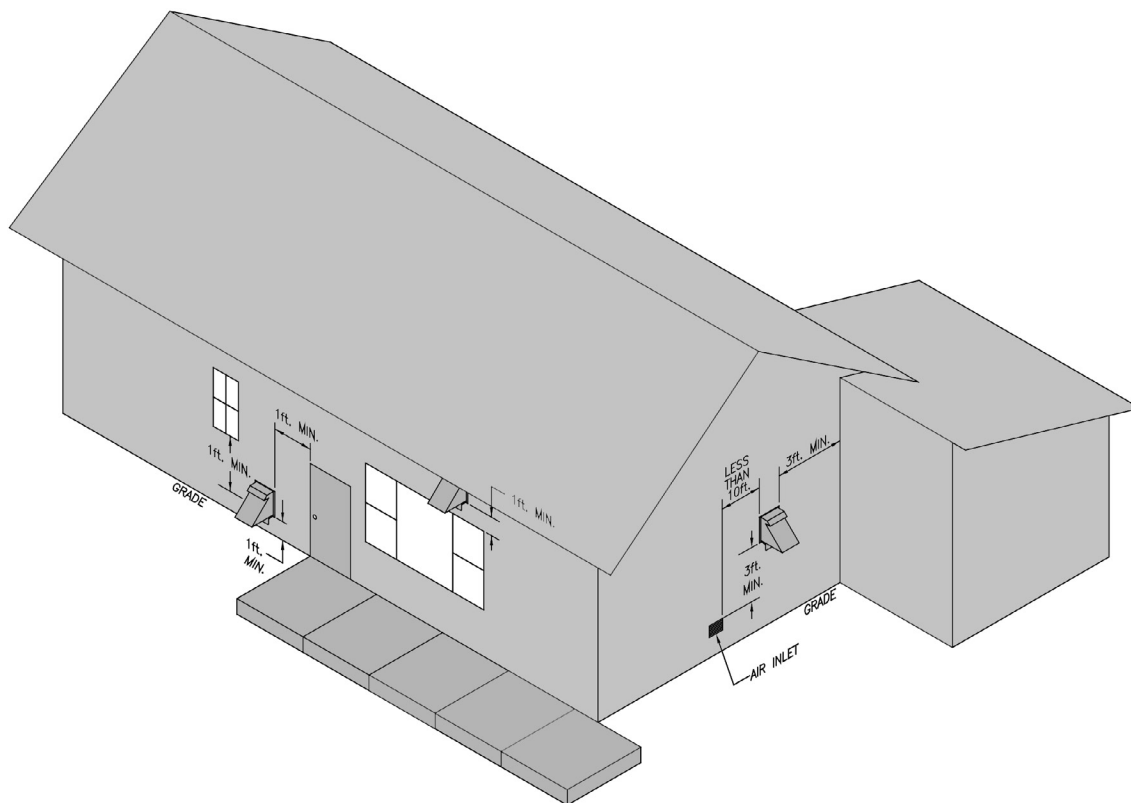

Figure 5-1: Vent Terminal Location
5. Locate the vent terminal so vent pipe is short and direct, and, at the place on exterior wall that complies with the minimum distances as specified in Figure 5-1 and listed as follows. The vent termination must be located (as measured to the bottom of vent terminal):